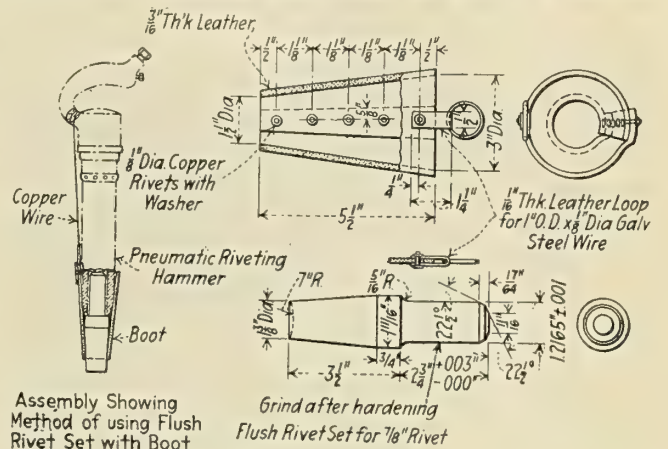

Fig. 12.—Flush Rivet Set and Boot
found that frequently, while the set is in use, the collar will chip off, damaging the set and the riveting gun. The collar was used in connection with a clip that held the rivet set in the gun. This clip was larger in diameter than the barrel of the gun, being too large to permit the operator to close his hand tightly around the set. The clip, moreover, bore on a small area in the palm of the hand in such a way as to make the palm sore in a short time. After some experimenting the type of "boot" shown in Fig. 12, which is made of chrome leather and held in place with copper wire, was found to give much better results. With this "boot" the riveter can encircle the set completely with his hand and consequently has the set in much better control than formerly.
(9) The upper end of the shank has the corners rounded off to a radius of 1/8 inch only. A radius of 5/16 inch should be used instead, or preferably two conical surfaces as shown in Fig. 12, the conical surfaces constituting a smaller machining operation than the rounded surfaces. The net result is the same, viz., that the diameter of the point of the shank upon which the piston impinges is 11/16 inch, the same as the diameter of the point of the piston. This not only prevents the piston and the set from indenting each other, but also prevents upsetting the end of the shank and causing the edges to chip off or expand and jam in the barrel of the gun. This rounding also facilitates the exhausting of air ahead of the piston on the down stroke and likewise facilitates the entry of the air to force the piston back on the return stroke. In this way the piston is given a greater speed, which shortens the operation of driving the rivet.
(10) The fillet at the juncture of the shank and body is 3/16 inch in this set. This radius should be 5/16 inch to make it correspond with the radius of the inner lip of the riveting gun barrel. When these dimensions are the